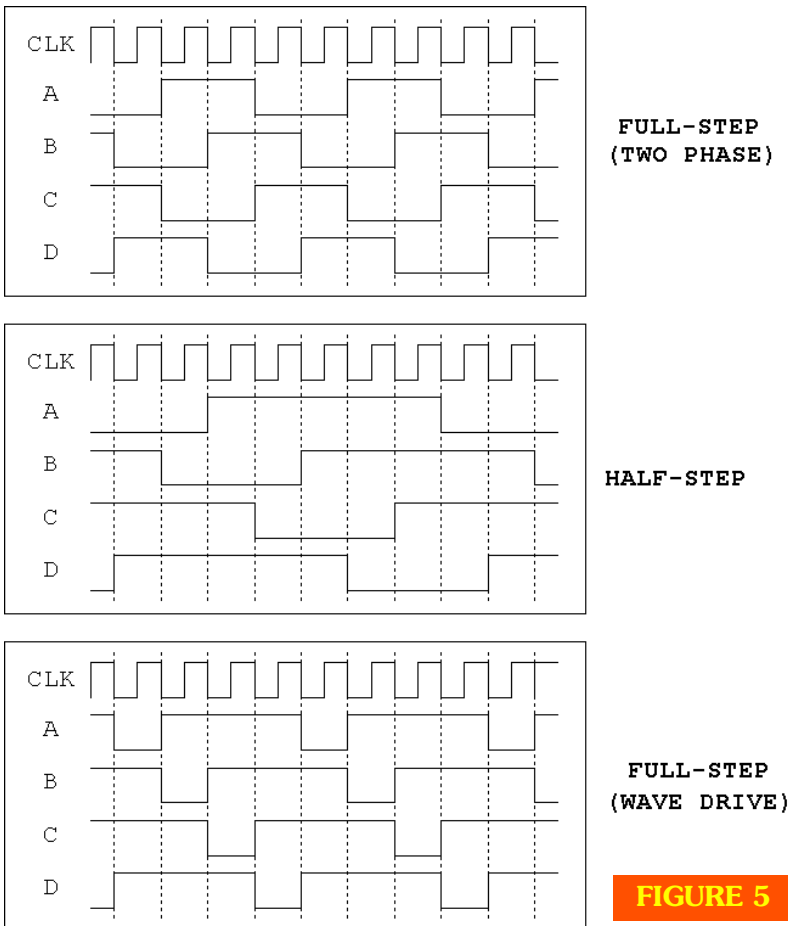

FIGURE 5
FULL-STEP with two phases energized, (2) FULL-STEP WAVE and (3) HALF-STEP. The waveforms for these three sequence modes are shown in Figure 5.